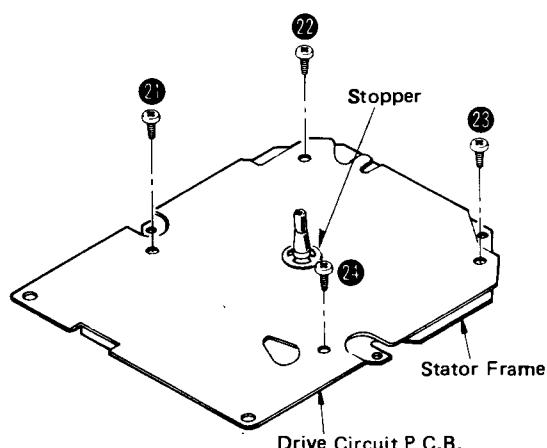

Fig. 10
4. Cut off the stopper by nippers and remove the 4 setscrews (Fig. 10: 21 ~ 24) to separate the drive circuit P.C.B. and stator frame.